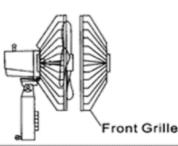

Fig. 5
- 04.** Put front grille on rear grille and close clips, and then fix together with screw and nut provided. (Fig5)